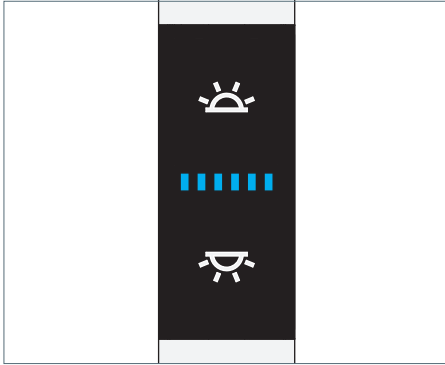

Fig. 22: Operating element.
- Press the upper switch, see Fig. 22
- Press the lower switch, see Fig. 22.
- Press the upper switch and keep it depressed, see Fig. 22.
- Press the lower switch and keep it depressed, see Fig. 22.